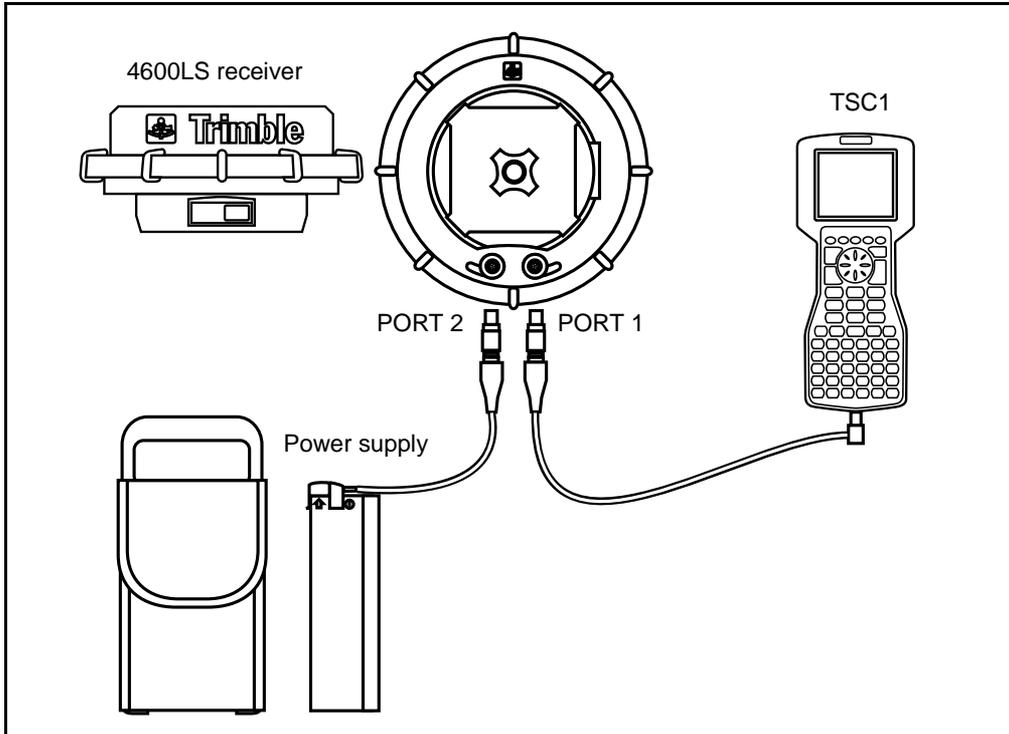

Figure D.5 Postprocessed configuration using a 4600LS receiver
To set up a base receiver for a postprocessed (PP) survey using a Trimble 4600LS receiver, see Figure D.5. Then do the following:
Figure D.5 shows a receiver setup for a postprocessed survey using a Trimble 4600LS receiver.
To set up a rover receiver for a postprocessed survey using a Trimble 4600LS receiver, see Figure D.5 on page 613. Then do the following: